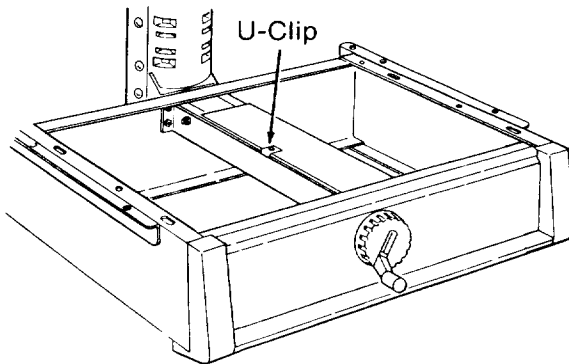

Fig. 60
3. Slide a *U-clip* onto the center channel of the *saw* as shown. (Figures 60 & 60A)